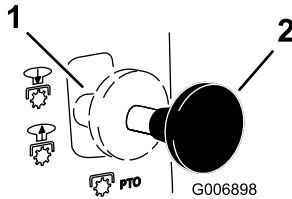

Figure 16
2. Pull the blade control (PTO) to on (Figure 16).
2. Push the blade control (PTO) to off (Figure 16).
3. Push the blade control (PTO) to off (Figure 16).